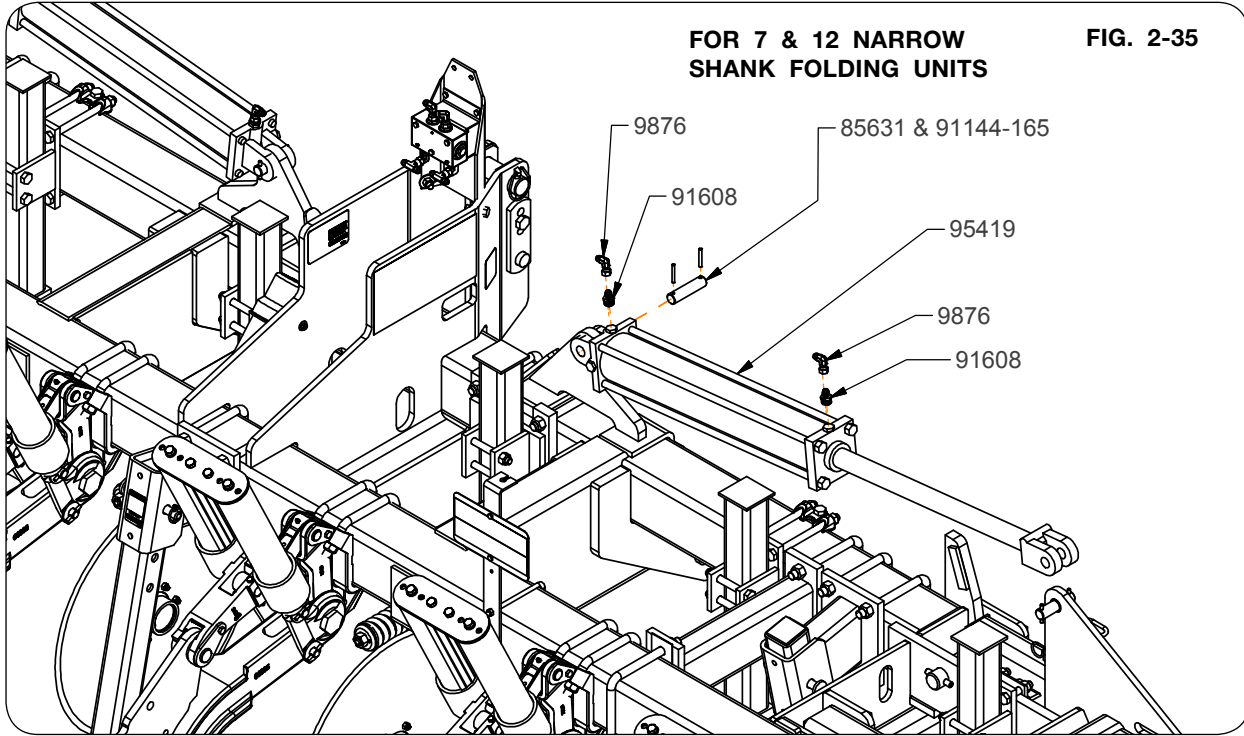

**FIG. 2-34**
4. Attach the 114" Main Harness (86466) to the connector of the attached light harness (69407), securing the excess to the unit frame. FIG. 2-34